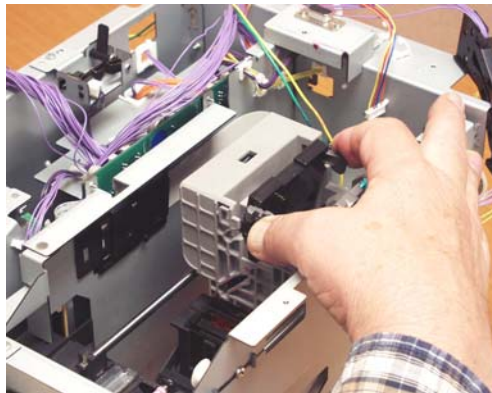

Figure 5-35 Remove Printhead
3. Remove the print head (Figure 5-35).